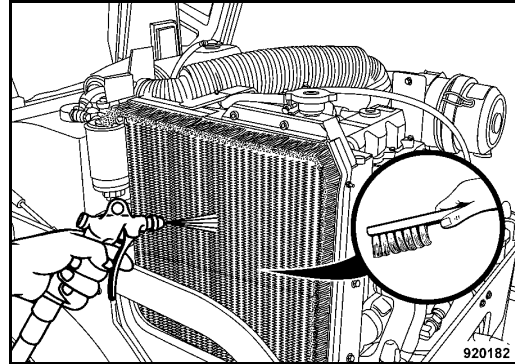

Fig. 148
- Blow out the air supply side of the hydraulic oil cooler (Fig. 148).